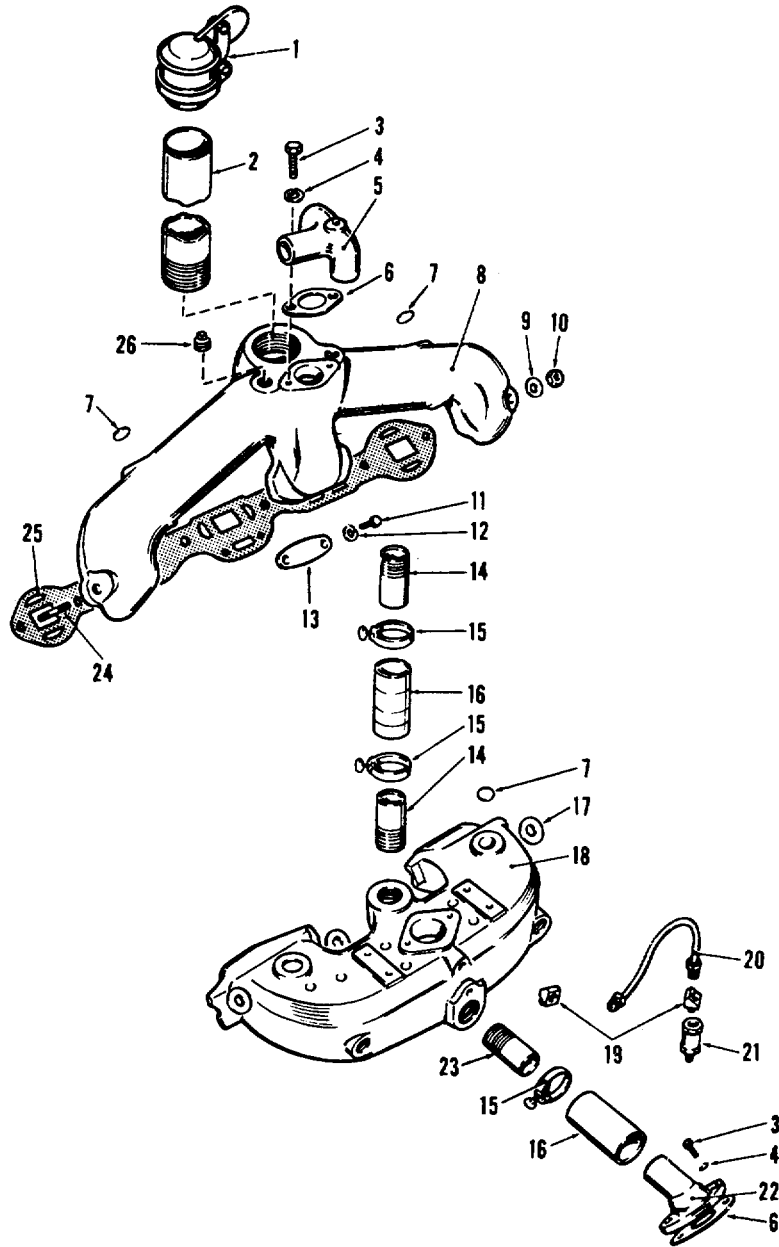

Figure 55. Exploded view of engine manifolds.
- (1) Unscrew the exhaust nipple (2, fig. 55) and weather cap (1) from the exhaust manifold (8).